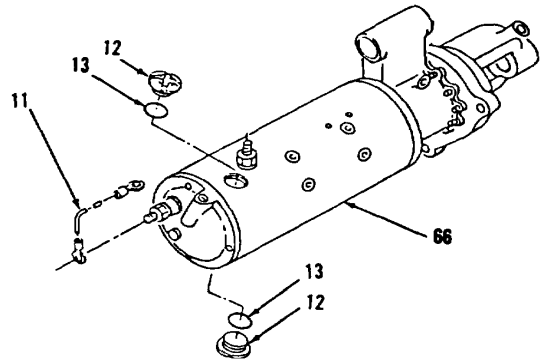
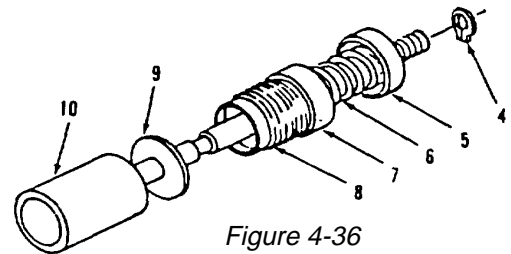
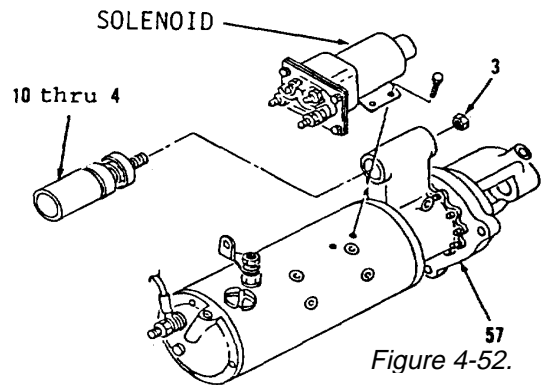

Figure 4-37.
Figure 4-36
Figure 4-52.
36. Install two new seals (13) and plugs (12, Figure 4-37).
37. Connect wire assembly (11).
38. Install washer (9), boot (8), retainer (7), spring (6) and retainer (5) on plunger (10, Figure 4-36).
39. Compress spring (6) and install snap ring (4) in groove of plunger (10) shaft.
40. Install items 10 thru 4 as an assembly on housing (57, Figure 4-52).
42. Install lock nut (3) loosely in housing (57).